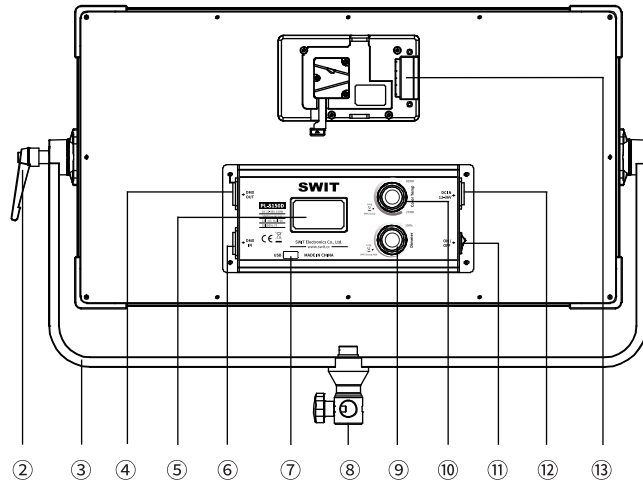
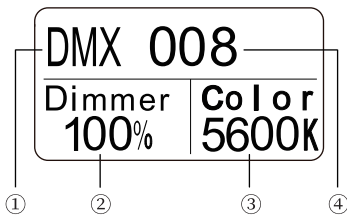
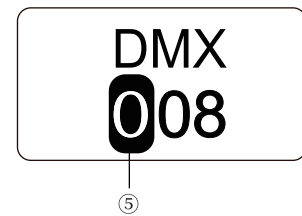
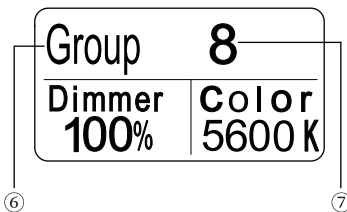

Fig.4 PL-S150D Back View
Fig.5 DMX Mode
Fig.7 DMX Address setting Interface
Fig.8 Group Mode
Rotate Dimmer/Color knob (Fig.4 ⑨/⑩) to adjust the intensity and color temperature,the setting range are below:
Long press Color adjustment knob (Fig.4 ⑩) to change the light to DMX communication mode (See Fig.5), long press Dimmer adjustment knob (Fig.4 ⑨) to enter into DMX address setting interface (See Fig.7) for DMX address setting:
The black shading (Figure 7 ⑤) indicates that the current bit is selected. Turn the Dimmer adjustment knob (Figure 4 ⑨) to set the current bit, press the Dimmer adjustment knob (Figure 4 ⑨) to set the current bit and go to the next bit. When the last bit is set, Press the Dimmer adjustment knob (Figure 4 ⑨) or wait for about 5s after stopping the operation to exit the setting of the communication address.
Press the Color adjustment knob (As shown in FIG. 4 ⑩) to make the current communication mode of the lamp set to Group communication mode (as shown in FIG. 8), and pass Dimmer Enter the Group address setting interface (as shown in Figure 10) and turn the Dimmer adjustment knob to set the Group address. Press the Dimmer adjustment knob (As shown in Figure 4 ⑨) or stop the operation and wait for about 5 seconds to exit the communication address setting.
USB port (Figure 4 ⑦) is a reserved port, please use according to the specified environment of the company's related products, can not be used for other purposes, in order to avoid losses.